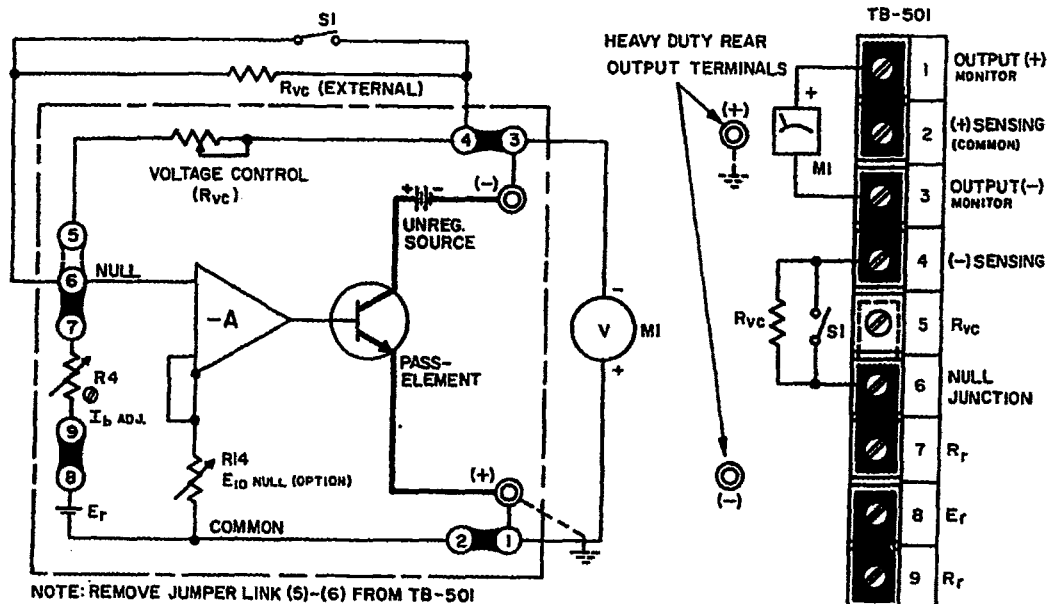

FIG. 3-4 CONNECTIONS FOR PRECISION PROGRAMMING RATIO ADJUSTMENT
### 3-16 PROCEDURE. PRECISION PROGRAMMING RATIO ADJUSTMENT (Refer to FIG. 3-4)
- Connect calibration set-up as shown in FIG. 3-4 and connect the power supply to the AC power line.